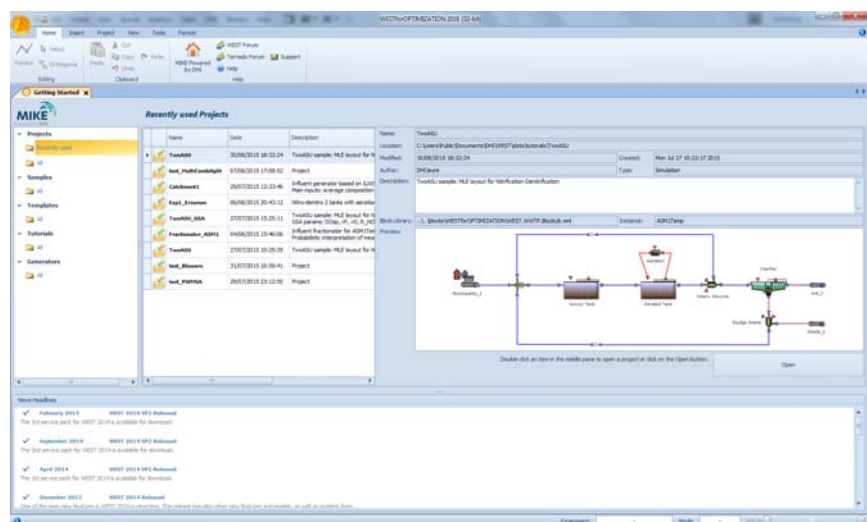

Figure 2.3 The Start-up view of WEST
- **Getting Started Sheet** (Figure 2.3):
The Getting Started Sheet of WEST (Figure 2.3) comprises the Project Overview and the News Headlines panes.